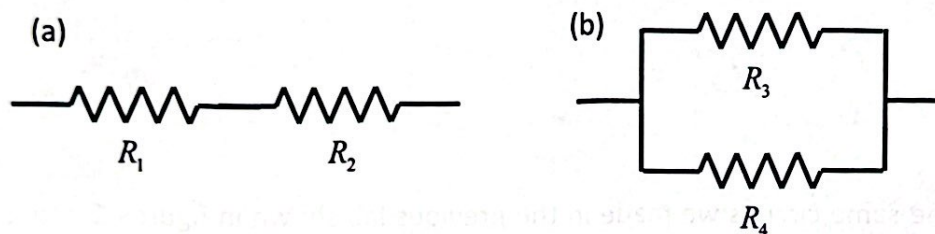
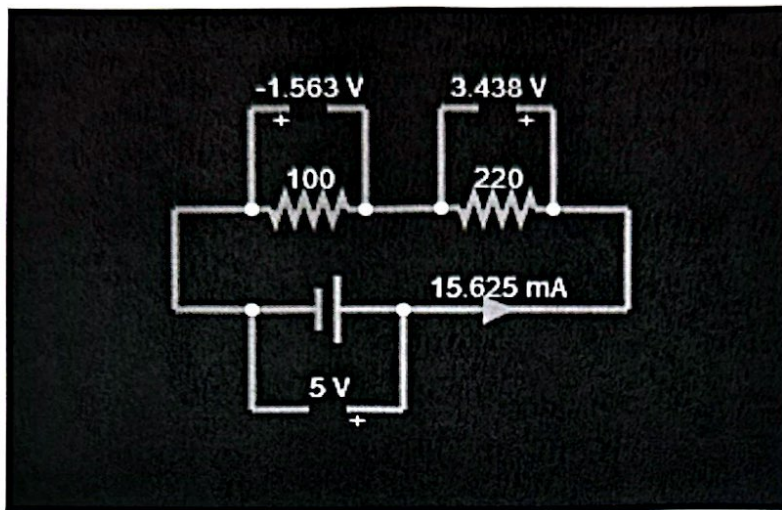

Figure 1. Circuit diagrams for two resistors in series (a) and in parallel (b).
Figure 3. An example of complete simulation circuit of figure 1a.
We will use the same circuits we made in the previous lab shown in figures 1 and 2. Construct your simulation using four resistors with values, $R_1 = 100\Omega$, $R_2 = 220\Omega$, $R_3 = 1k\Omega$, and $R_4 = 2.2k\Omega$.
Step 1. Make a passive circuit according to **figure 1(a)** first. Measure the total resistance to make sure the circuit is correct. Add a two-terminal voltage source to the two open ends of the passive circuit. **Set the voltage to 5V.** Connect ammeters and voltmeters in the circuit to measure current and voltage on each component including the power supply. If you know some of the variables are identical, for example, the current through R_1 , R_2 and the source are the same in circuit 1(a), you can use one ammeter to measure them. Assuming you have unlimited ammeters and voltmeters, try to reduce the use when possible. Figure 3 shows an example of the simulation circuits of figure 1a with three voltmeters and one ammeter connected. Reading on the meters can be positive or negative depending on how the two ports of a meters are connected to the component. The positive value on an ammeter means the current flows along the arrow. A negative value on a voltmeter means the voltage is lower at the port marked "+". Switching the terminals will change the sign. There are other variations to connect this circuit. Make an excel